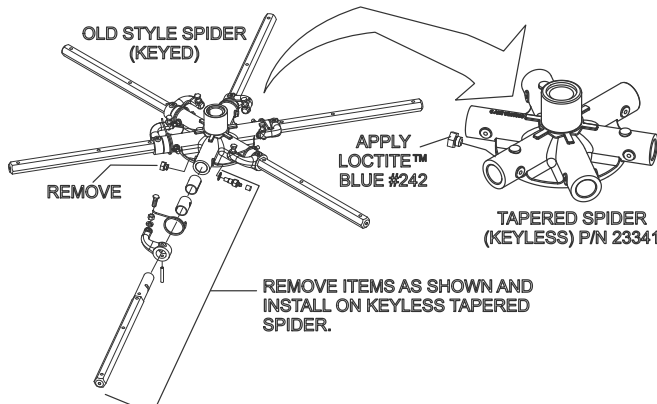

Figure 5. Spider Components
2. Remove trowel arms and associated components (Figure 5) from old spider (removed) assembly and place onto **new tapered spider**. Tighten trowel arms and associated hardware securely. If required, reference parts manual as guide for reassembly.
Apply Loctite™ 242 (BLUE) to the six HHC screws P/N 11602 as shown in Figure 5.